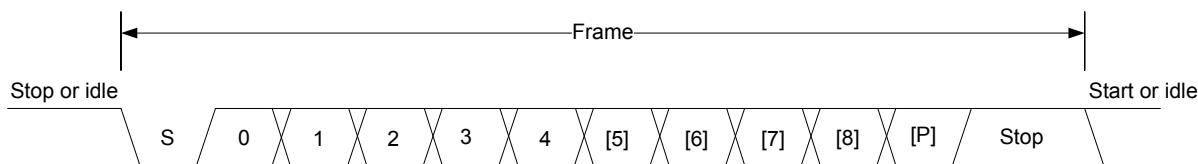

Figure 18.2. USART Asynchronous Frame Format
The frame format used in asynchronous mode consists of a set of data bits in addition to bits for synchronization and optionally a parity bit for error checking. A frame starts with one start-bit (S), where the line is driven low for one bit-period. This signals the start of a frame, and is used for synchronization. Following the start bit are 4 to 16 data bits and an optional parity bit. Finally, a number of stop-bits, where the line is driven high, end the frame. An example frame is shown in Figure 18.2 USART Asynchronous Frame Format on page 529.